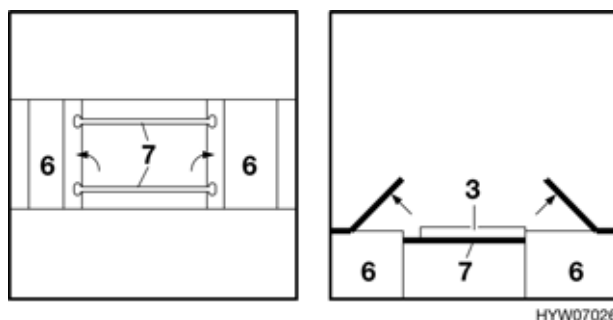

Fig. 97 During conversion
- Lift up the bedding box lids and insert the two bed rods (Fig. 97,7) in a transverse position in the pertinent grooves between both bedding boxes. Close the bedding box lids.
- Place the table-top (Fig. 97,3) on the two bed rods.